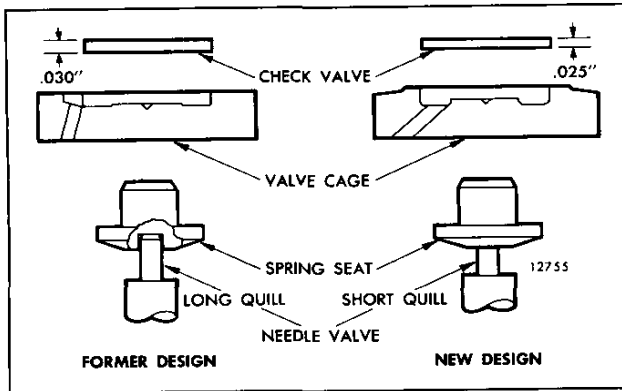

Fig. 30 - Comparison of Former and New Design Injector Parts
The former and new check valve and check valve cage are not separately interchangeable in a former injector (Fig. 30).
- Do not use new design needle valve spray tip with former design spring seat (Fig. 30).